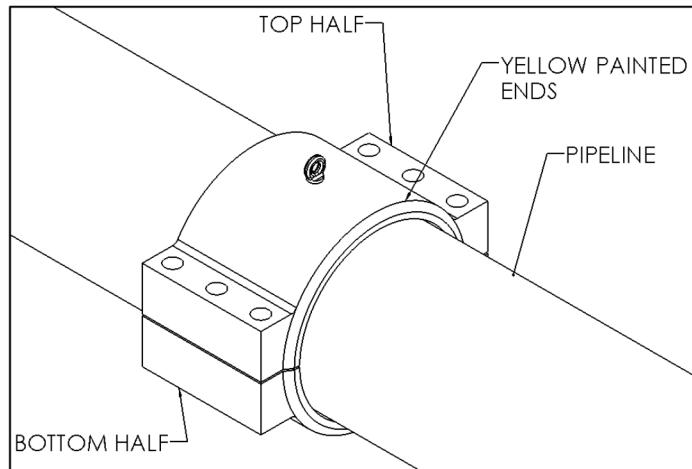

Figure 5
4. Assemble the PLIDCO Split+Sleeve around the pipe making sure the yellow painted ends are matched. The fitting should be centered over the leak and/or damaged area as much as possible as shown in Figure 5. At no point should the leak be closer than $\frac{1}{2}$ " (12.7mm) from the circumferential seals. Try to avoid having any leak spraying directly onto the longitudinal seals.